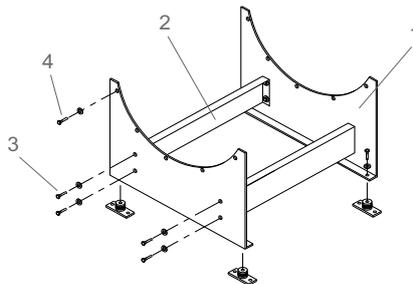

Figure 2. Horizontal support frame for ACN-ACW ATEX and ACW EX
The horizontal support frame consists of two mounting plates (figure 2, item 1). Two stiffeners (item 2) are mounted between the plates with screws M10x20. Stiffeners are from fan size Ø630 and up.
Secure vibration mounts (figure 2) in the support frame by means of bolts.